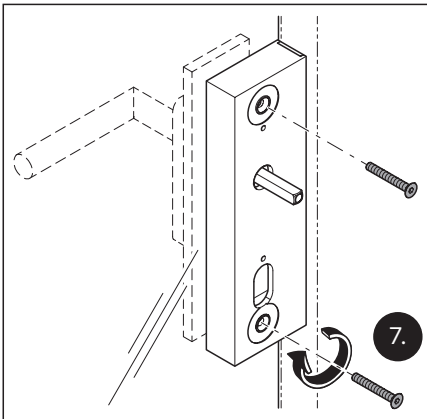

Fig. 33 Connect the lock mortise and the screw-on plate
7. Connect the lock mortise and the screw-on plate loosely through the door with the appropriate screws (Fig. 33).
10. Fix the lock mortise and the screw-on plate in place with 10 Nm (see Fig. 33).